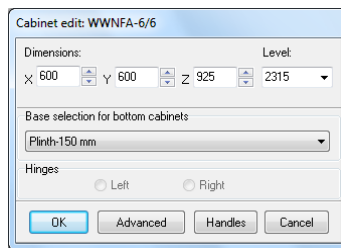

Fig. 153 – Cabinet edition
- the **Cabinet edit** window, presented below, will display (Fig. 153);